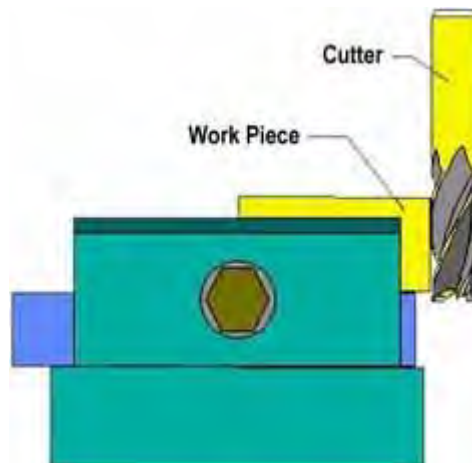

Figure 23. End Surface Milling
- Both ends of the workpiece can be machined with the periphery flutes of the cutter using up cut milling as shown in figure 23.